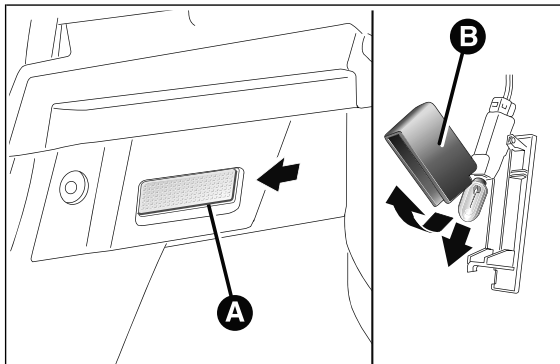
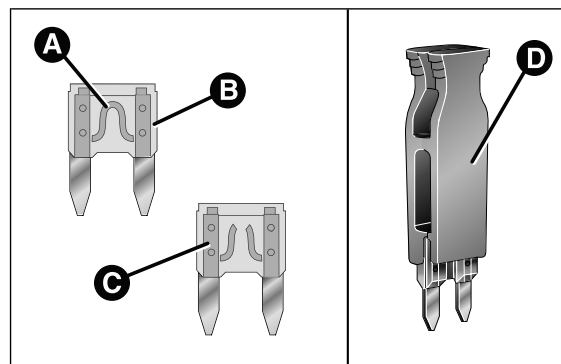

fig. 138
fig. 139
- ☐ operate in the point shown by the arrow and remove the roof light A fig. 138;
- ☐ open the flap C fig. 139 and replace the bulb B releasing it from the side contacts;
- ☐ Insert the new bulb B fig. 139 and make sure that it is correctly clamped between the contacts;
- ☐ reclose the flap C fig. 139 and fix the roof light A fig. 138 in its housing making sure that it is locked.